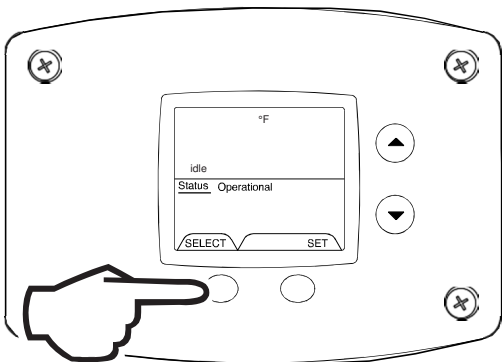

Fig. 66
1. In 'Service Mode' press the 'Select' button until the next display after the 'Software Version'. If there are no current error codes, the display will show -- (Fig. 66).